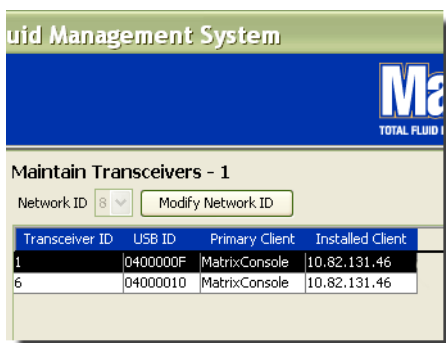

FIG. 105
- The updated Primary Client Profile displays in the Primary Client field as shown in FIG. 105.
5. The Fluid information displays on the Fluids screen as shown in FIG. 105.